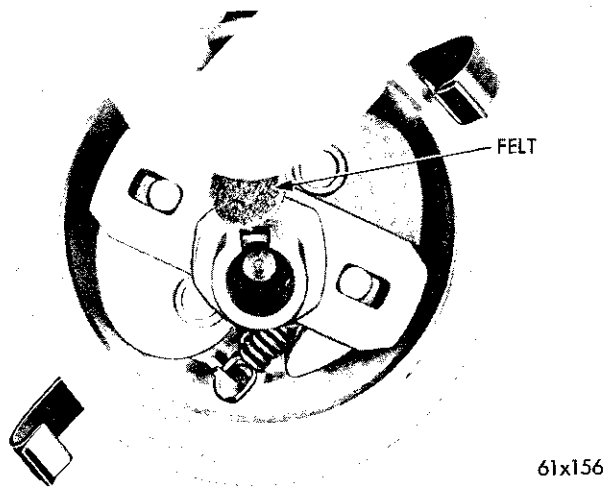

Fig. 48—Removing or Installing Distributor Cam Felt Wick
(1) Remove the distributor rotor.
(2) Remove the retainer attaching the vacuum control unit to the breaker plate advance arm.
(3) Remove the two screws and lockwashers attaching the vacuum control unit to the distributor housing and remove the control unit.
(4) Remove primary lead wire and rubber grommet as an assembly.
(5) Remove the two screws and lockwashers attaching the breaker plate to housing and lift out the breaker plate, points and condenser as an assembly.
(6) Remove the oil wick from the distributor cam (Fig. 48). Remove the spring clips from the oil well in cam and remove the cam and yoke assembly and spacer.